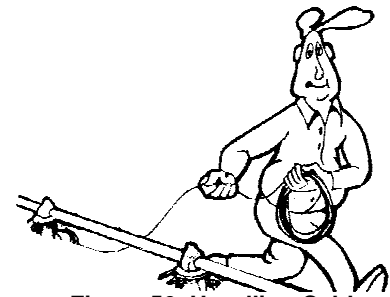

Figure 56. Unrolling Cable
1. Unroll the anti-roost cable. Note: If the cable is unrolled as shown see **Figure 56**. Take 5 loops of the coil with one hand then changing hands to remove 5 loops as it is unrolled, it will lie flat during installation.